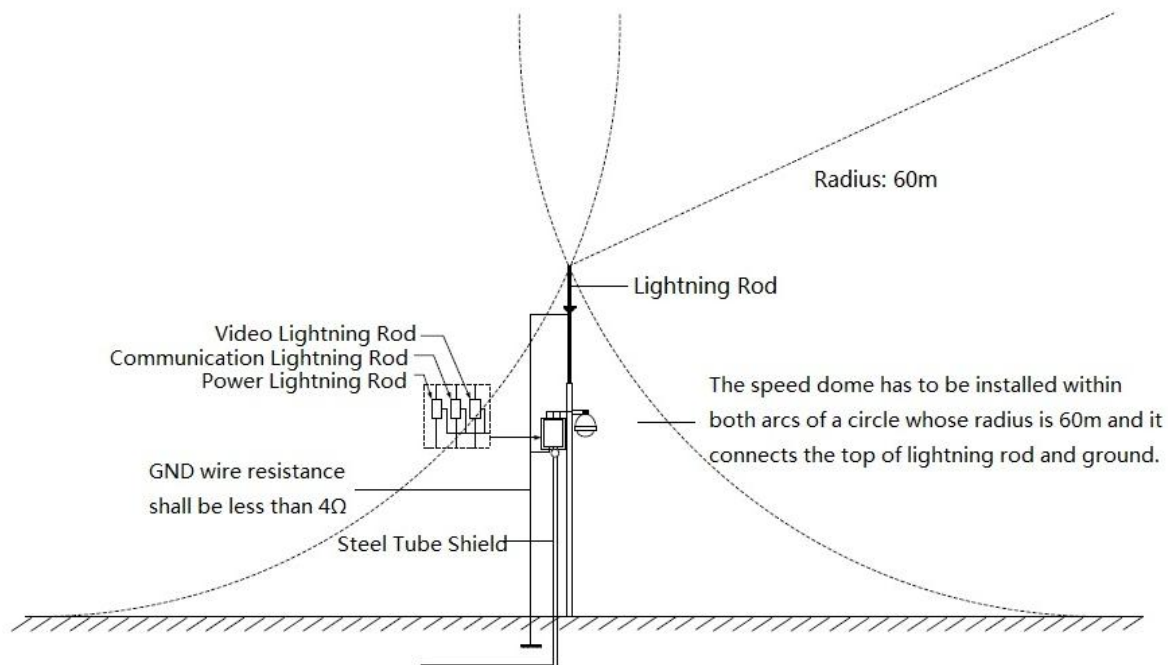

Figure 6-1
- System shall adopt equal-potential wiring. The earth device shall meet anti-jamming and at the same time conforms to your local electrical safety code. The earth device shall not short circuit to N (neutral) line of high voltage power grid or mixed with other wires. When connect the system to the earth alone, the earth resistance shall not be more than 4Ω and earth cable cross-sectional area shall be no less than 25 mm^2 . See Figure 6-1